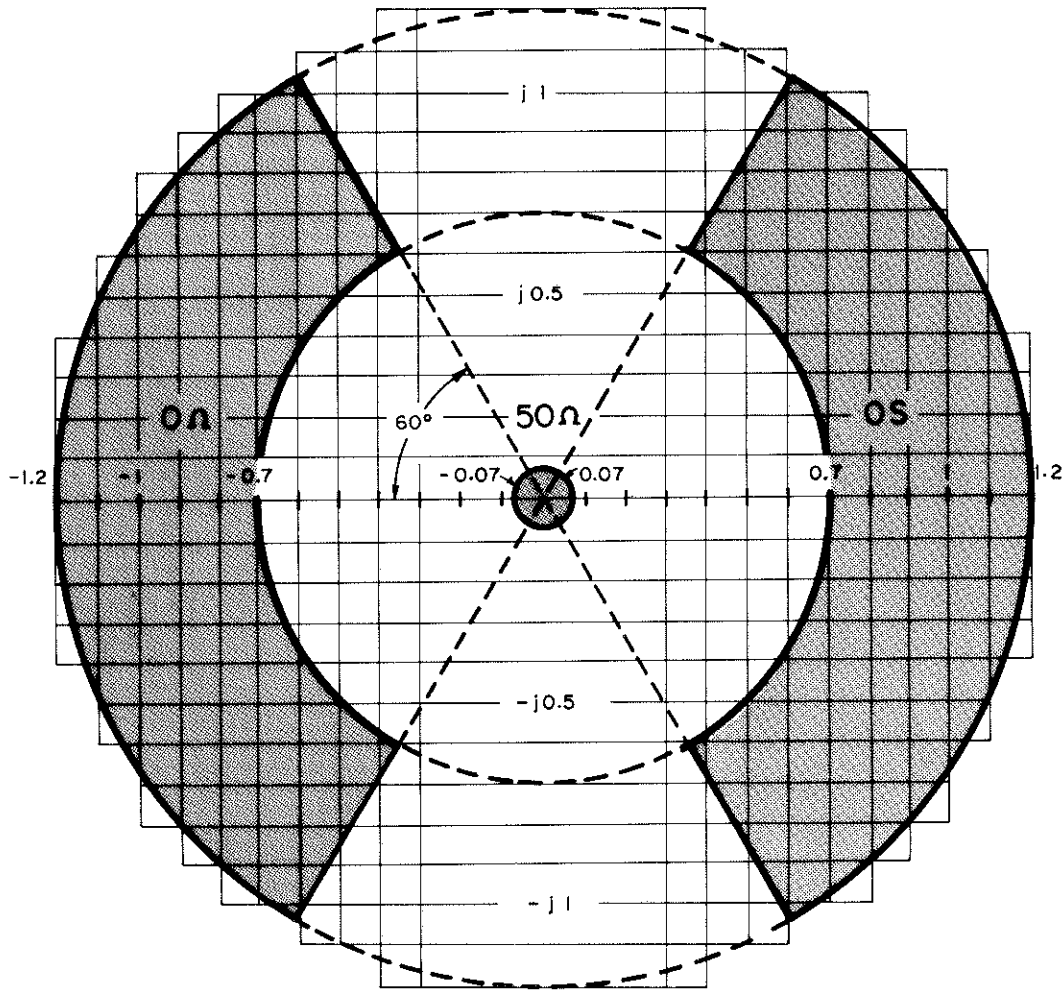

Figure 4-4. Calibration Data Test Limits.
5. Monitor calibration data (measured Γ_x and Γ_y values) printed out for individual calibration frequencies. The print outputs should be within the test limits given in Figure 4-4.
6. Perform auto-calibration again using the 0S and 50Ω reference terminations. Verify that the print outputs are within the test limits for the respective termination (in Figure 4-4).
Note: If a printer is not available, compare the auto-calibration data, displayed on the DISPLAY A and DISPLAY B, with the test limits given here (easy to remember) and recheck only the critical test results for Figure 4-4.